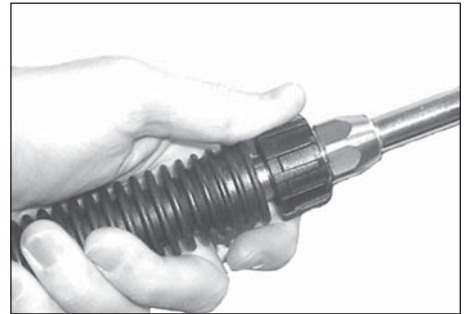

Figure 7 - Attach lance to gun
4. Attach the lance to the gun (see Figure 7).